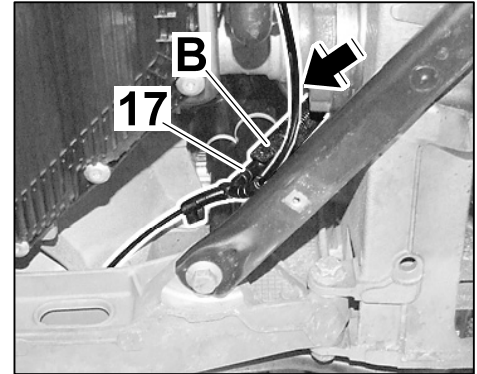

Figure 11
- 4.2.3 Slide the vacuum line (1,200 mm) and standard vacuum line ⇒ *Figure 11* **-arrow-** into the distributing piece and then connect the distributing piece to the vacuum supply line adapter ⇒ *Figure 11* **-B-**.